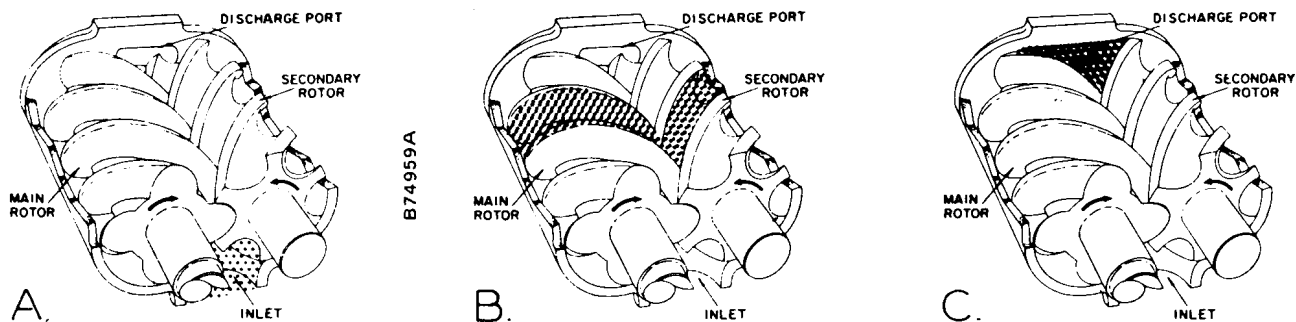

FIGURE 1-1 – COMPRESSION CYCLE
COMPRESSION PRINCIPLE (FIGURE 1-1) – Compression is accomplished by the main and secondary rotors synchronously meshing in a one-piece cylinder. The main rotor has four (4) helical lobes 90° apart. The secondary rotor has five (5) matching helical grooves 72° apart to allow meshing with main rotor lobes.
The air inlet port is located on top of the compressor near the center. The discharge port is near the bottom at the opposite end of the compressor cylinder. *Figure 1-1 is an inverted view to show inlet and discharge ports.* The compression cycle begins as rotors unmesh at the inlet port and air is drawn into the cavity between the main rotor lobes and secondary rotor grooves (A). When the rotors pass the inlet port cutoff, air is trapped in the interlobe cavity and flows axially with the meshing rotors (B). As meshing continues, more of the main rotor lobe enters the secondary rotor groove, normal volume is reduced and pressure increases.